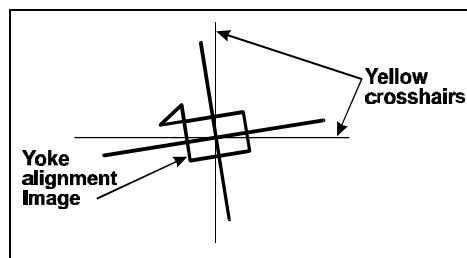

Figure 5-18. Yoke alignment image before yoke adjustment
17. View yoke alignment image on screen (Figure 5-18).